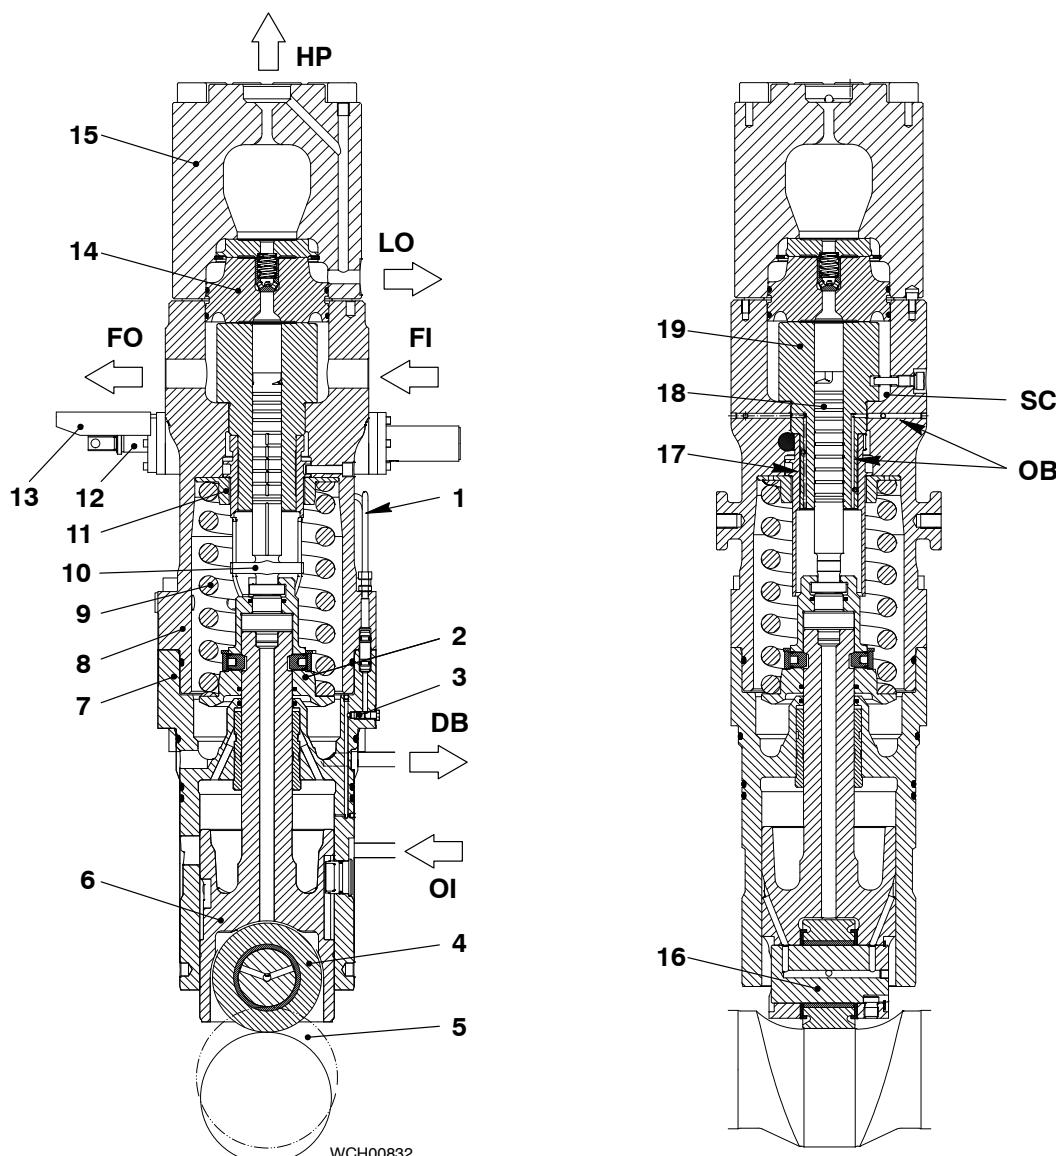

Fig. 2: Fuel Pump
The compression spring (9, Fig. 2) keeps the bottom spring carrier (2) against the guide piston (6), which keeps the roller (4) against the cam (5). When the cam (5) moves the roller (4) up, the guide piston (6) moves up and the bottom spring carrier (2) compresses the compression spring (9). The pump plunger (18) then moves up. The control grooves in the pump plunger (18) control the fuel quantity.